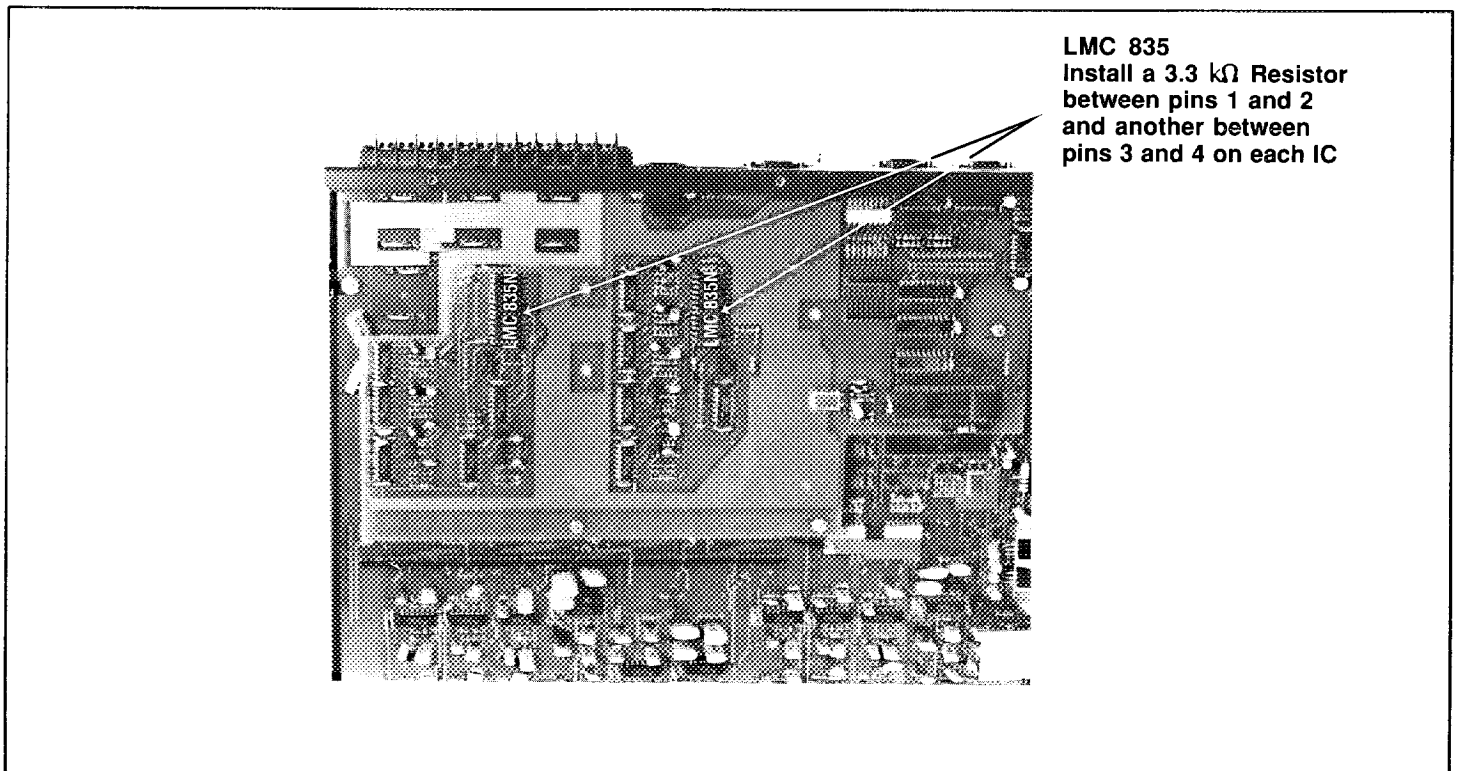

Figure 6 Modifying the Master Gain Circuits for  $\pm 6$  dB of Boost/Cut and  $\frac{1}{2}$  dB Resolution
5. The master gain circuits are located on the upper circuit board. No provision is made on this board to mount the resistors. To change the master gain, solder a 3.3 k $\Omega$  1/4 watt resistor between pins 1 and 2, and another 3.3 k $\Omega$  1/4 watt resistor between pins 3 and 4 of each LMC835, the large 28 pin IC's shown in Figure 6.